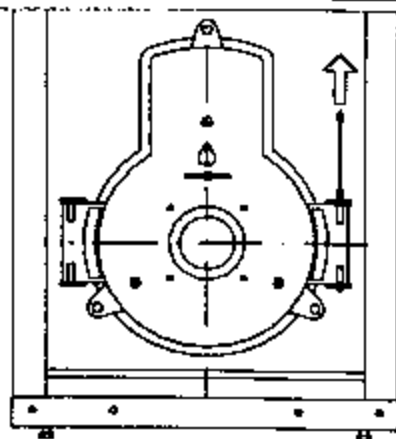

Fig. 29 Boiler door mounting
- Undo the boiler door bolts - Swing out the boiler door complete with burner - If necessary dismantle the boiler door, to do this remove the rod from the door hinge (Fig. 29).